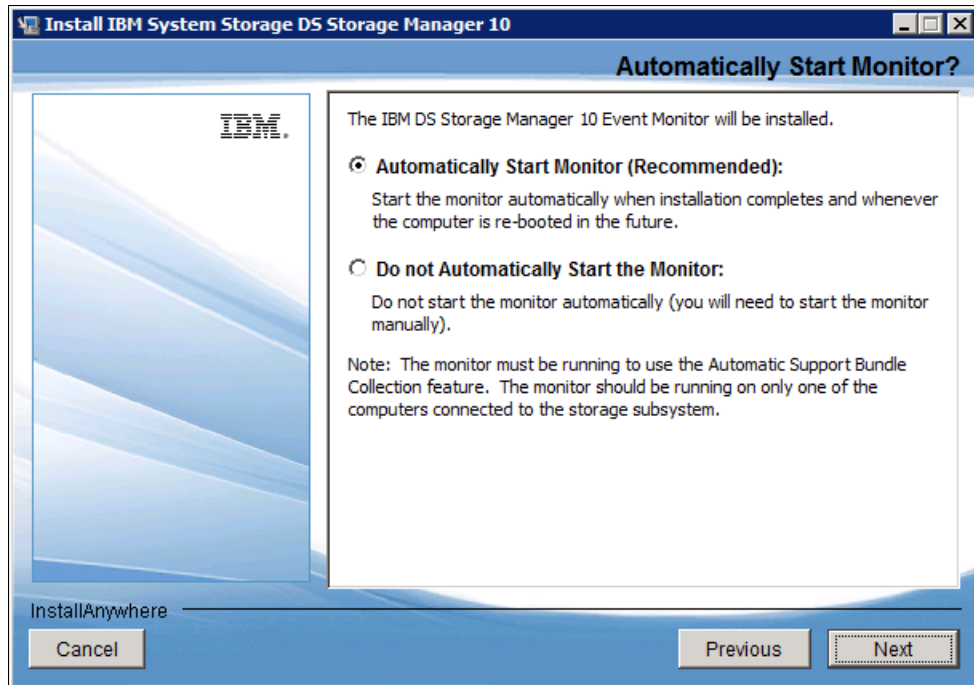

Figure 4-10 IBM DS Storage Manager Automatically Start Monitor
10. In Figure 4-10, you can select whether to automatically start the Storage Manager Monitor. Click **Next**.